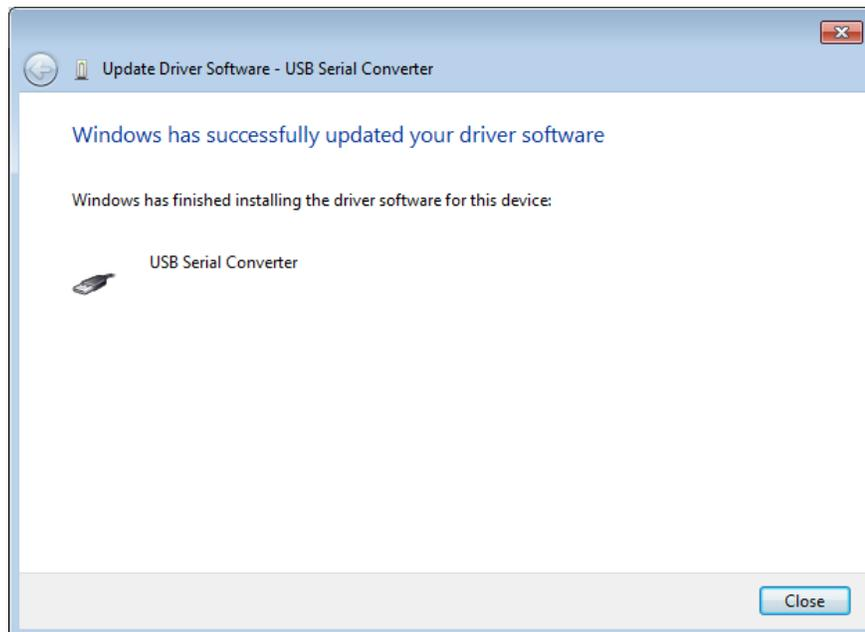

Figure 10 – Driver Installation Step-by-Step – Driver installed
- 7th step: The next window will open. The driver was installed. Click **Close**. See Figure 10.